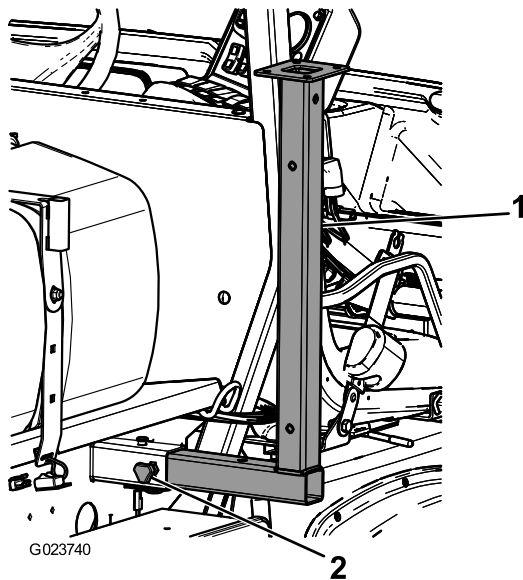

Figure 47
1. Insert the front jack stands upside down into the frame near the front tie-down points (Figure 47).